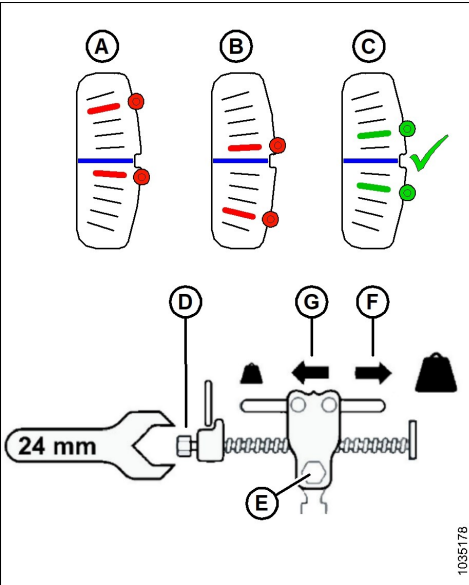

Figure 10: Wing Balance Adjustment
- d. On the flex checker plate, pinch indicators (A) and (B) together with your fingers.
- e. Use multi-tool (C) to rotate the flex checker plate up until the pin reaches the end of the slot. Lower indicator (B) will move down to give the first reading.
- f. Use multi-tool (C) to rotate the flex checker plate down until the pin reaches the end of the slot. Upper indicator (A) will move up to give the second reading.
- g. Refer to Figure 10 and interpret the indicator positions as follows: